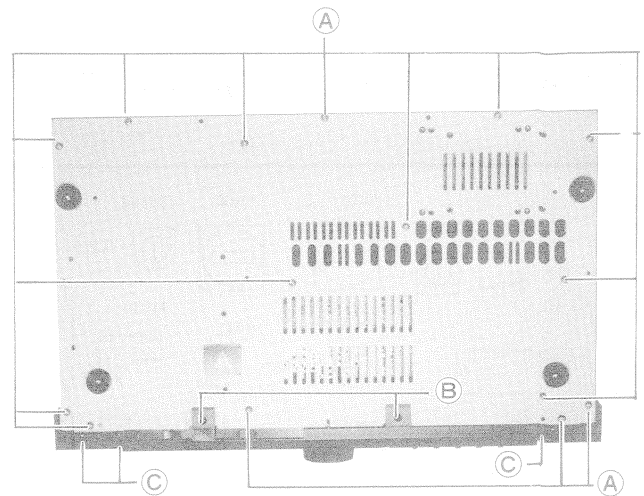

Fig. 1
2. Remove the 17 screws (A & B). See Fig.1.